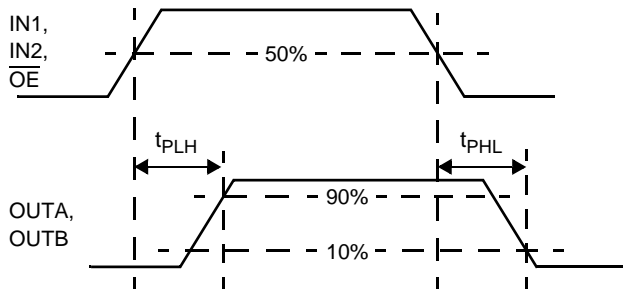

Figure 4. t_{PLH} , t_{PHL} , and t_{PZH} Timing
- 16. Load of Output is $8.0\ \Omega$ resistance. see Figure 4